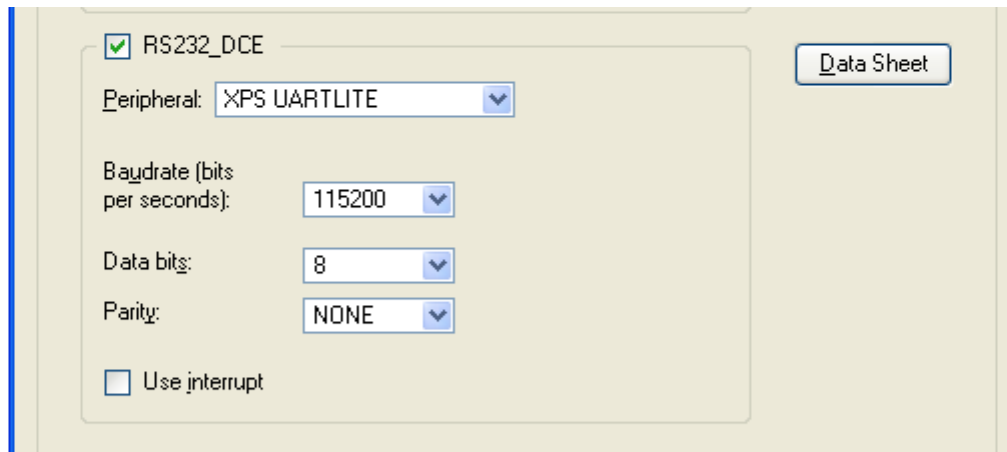

Figure 1-8. Configure RS-232 DCE
- ❶ In the **Configure IO Interfaces** dialog, select and configure the **RS232_DCE**, **LEDs_8Bit** and **DDR_SDRAM** peripherals as shown below, leaving the rest of the peripherals unchecked.
- RS232_DCE: XPS UARLITE, 115200 baud rate, 8 Data bits, no interrupt, no parity (**Figure 1-8**)